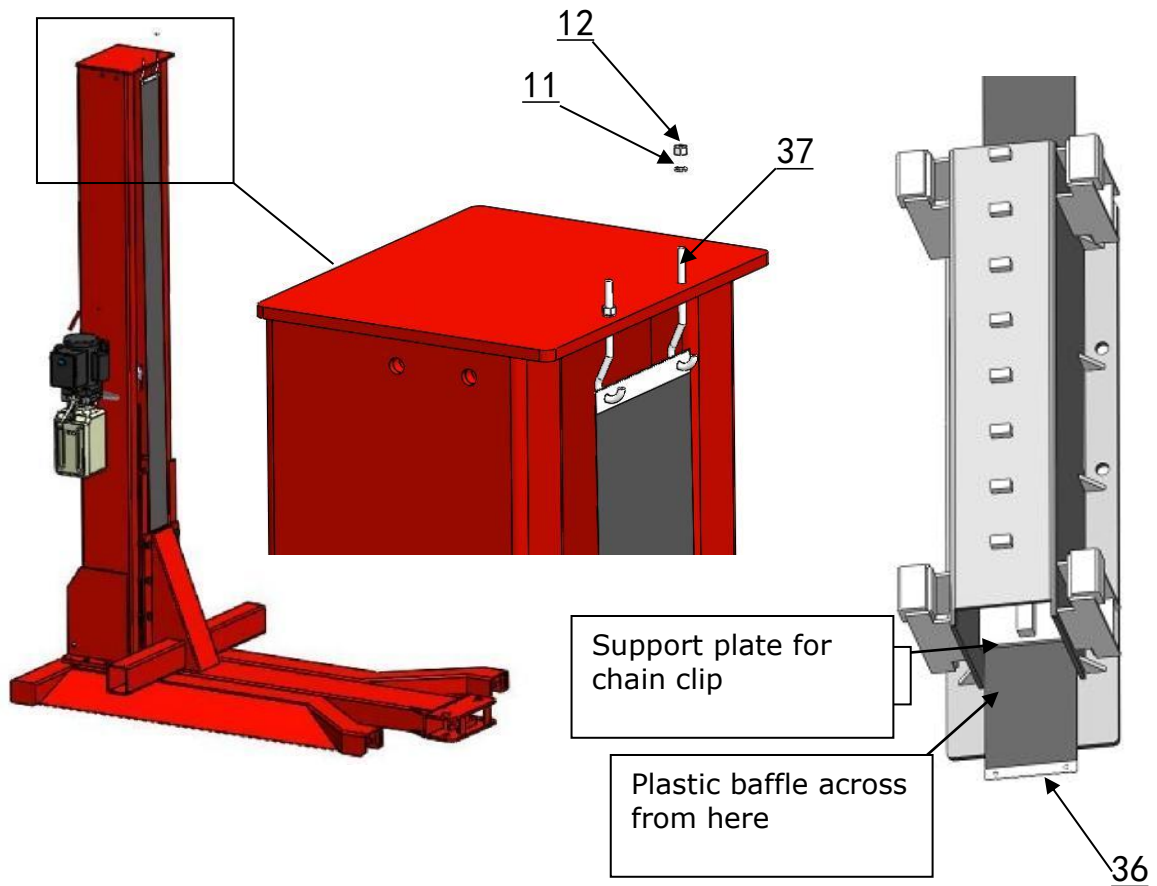

Fig.15
F. Install plastic cover (See Fig.15)